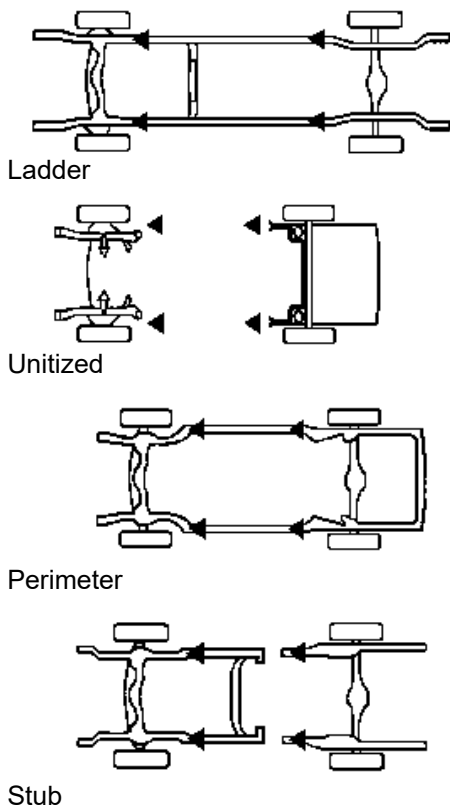

Fig. 7 Service Garage Lift Points
- b. **230V (non-standard wiring)** Connect Power Unit to suitable electrical source as shown in **Fig 7**.
NOTE: Some vehicles may have the manufacturer's recommended lift points identified by triangle shape marks located on its undercarriage. Also, there may be a label located on the right front door lock face showing specific vehicle lift points. If the vehicles lift points are not identified, refer to the service garage lift points shown in **Fig. 7**. **ALWAYS** follow the operating instructions supplied with the lift.